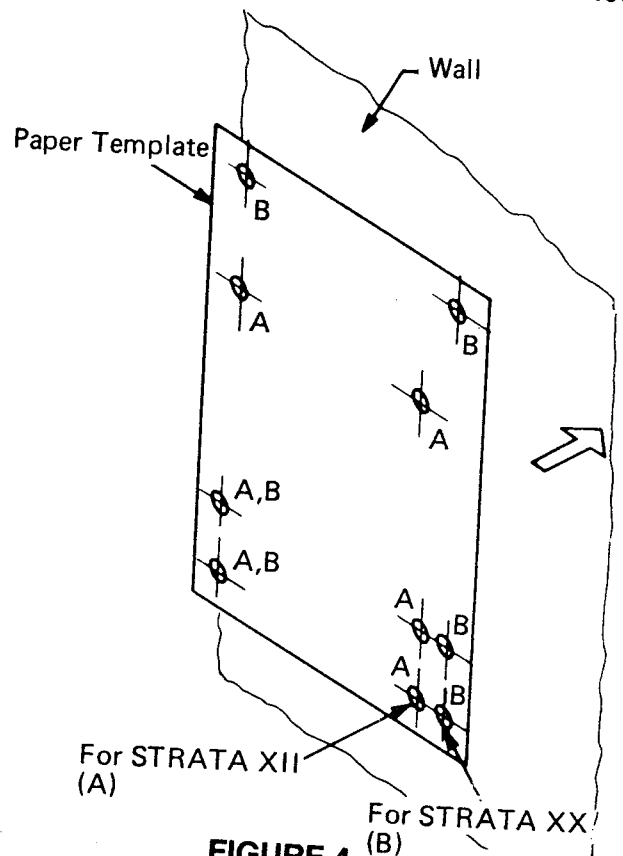

FIGURE 4
04.25 Secure the template (Figure 4) to the mounting surface with tape, and perform the following steps: